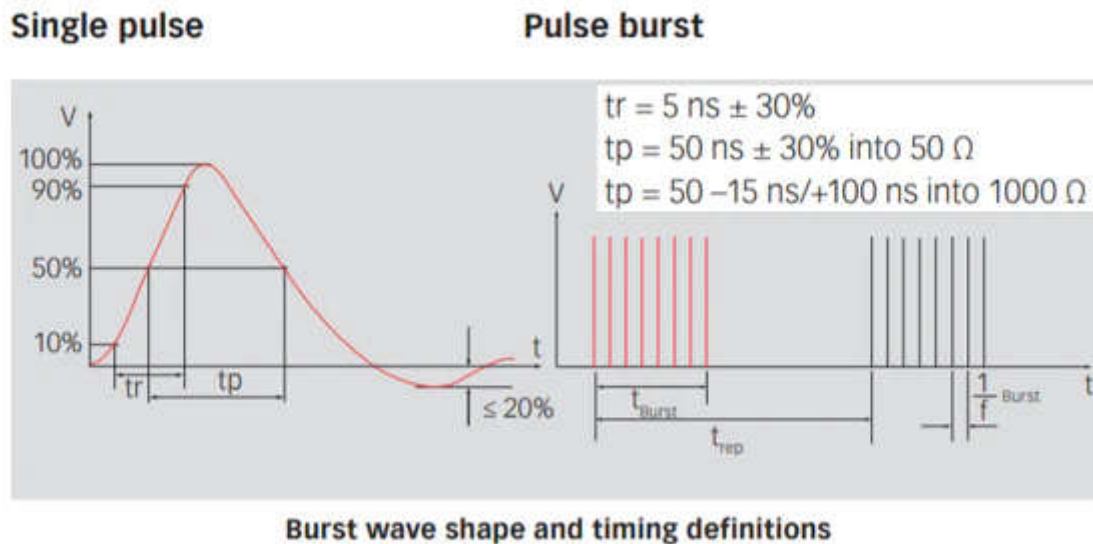
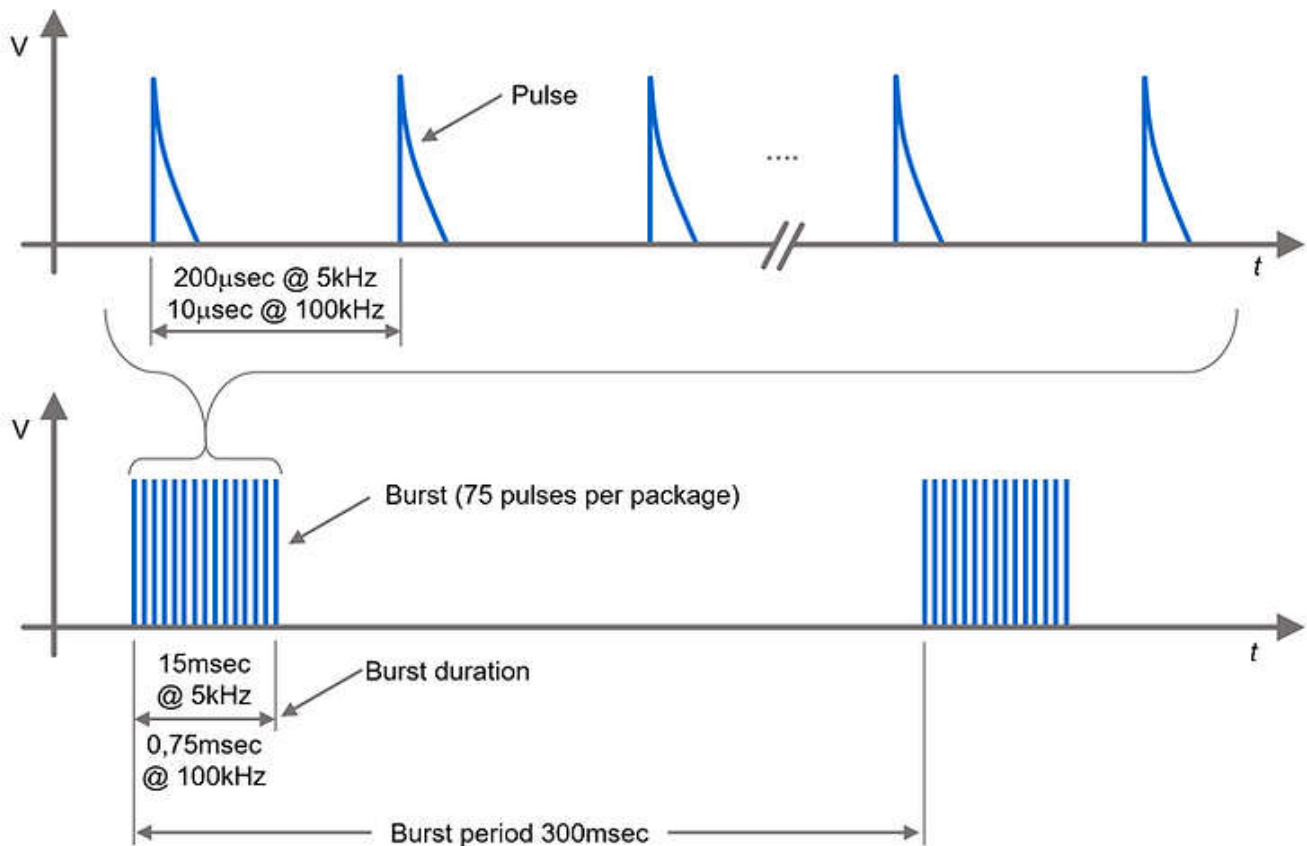

Figure 1-2. Burst Wave Shape and Timing Definitions
Figure 1-3. Test Repetition Times
Typical characteristics of EFT burst testing including peak voltage amplitudes, test levels, burst wave shape and timing definitions, and testing repetition times are shown in the figures below (Table 1-1, Figure 1-2, and Figure 1-3).
- First, find the duty cycle of the EFT Burst signals (Figure 1-2 and Figure 1-3).
- Time between pulses (TP) = 10us for 100kHz EFT burst or 200us for 5kHz EFT burst test and Pulse Duration (tp)= 50ns
- Next, find the duty cycle of the EFT Burst signals when sent in the burst packets as outlined in (Figure 1-3) Test Repetition Times.